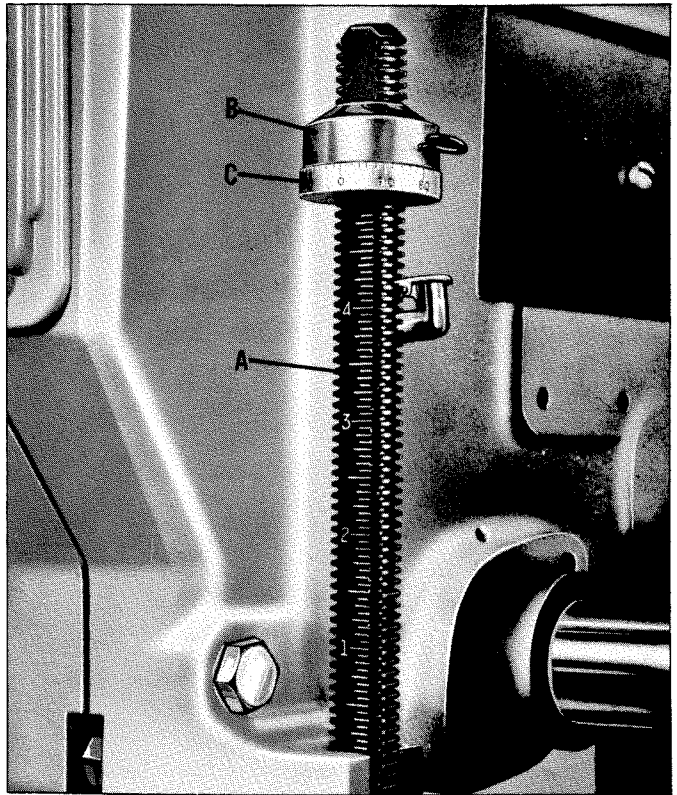

Fig. 6.
When drilling one or two holes to a predetermined depth, the calibrations on the face of the depth stop rod (A) Fig. 6, can be used.
1. Raise the locking sleeve (B) Fig. 6, and turn the micro-nut (C) to the desired position on the stop rod (A).
2. Lower the locking sleeve (B) so it will engage micro-nut (C) Fig. 6. Lock sleeve (B) in place with thumb screw if drill press head is mounted in other than vertical position. When the drill press is mounted with the chuck pointing "up", the locking sleeve (B) and micro-nut (C) Fig. 6, should be reversed on the stop rod (A).
3. When locking sleeve (B) is in place on the micro-nut (C) Fig. 6, the micro-nut can not be turned. When a change in depth is required, the locking sleeve (B) must be raised, and while it is raised, turn the micro-nut (C) the necessary calibration marks. Each mark represents $.002''$. Then lower the locking sleeve (B).